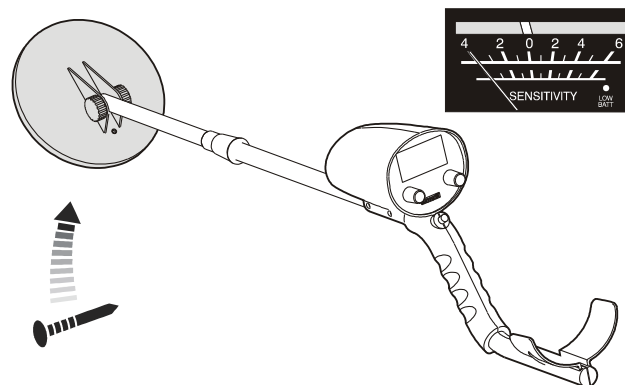

Figure.11
- When the iron nail approach the search coil slowly, the meter pointer will deflect to the left, and the sound will turn light. When the iron nail is more closer to the search coil, the meter pointer will deflect to the left more and the sound turns more lighter, until it disappears. (Figure.11)